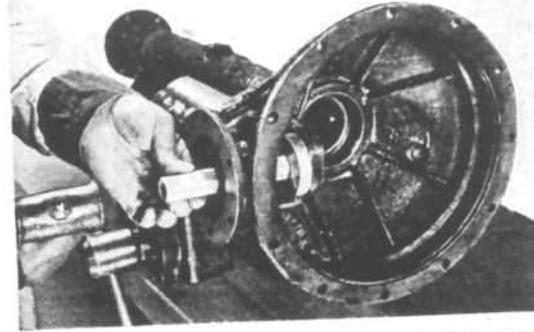

FIG. 274—PINION PILOT BEARING INSTALLER
- a. Install pilot bearing retainer and drive the bearing into place with Tool No. W-207, Fig. 274.